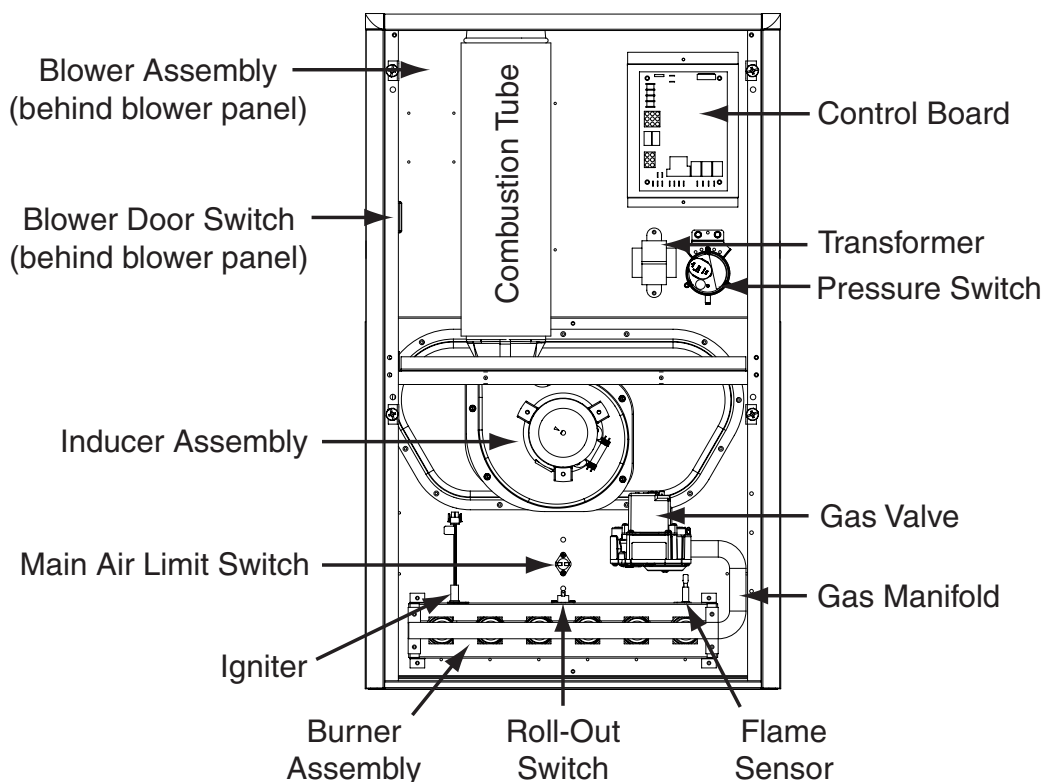

Figure 20. Component Locations
- If the inducer blower is operating and items above have been verified, check the blower limit switch and reset if necessary. See Figure 20, \(page 35\) for component location.
- If the furnace still doesn't operate, check the flame roll-out switch and reset if necessary. See Figure 20 for component location.
The descriptions below are various functional components that affect the operation and shutting down of this furnace. Some of these components and their locations are shown in Figure 20, \(page 35\). If any component of the furnace must be replaced, use only factory authorized replacement parts specified in the Replacement Parts List provided online.